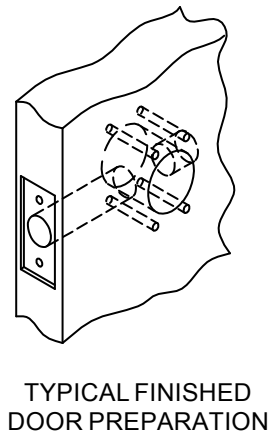

FIGURE 2
- DRILL HOLES AS DIRECTED ON INSTALLATION TEMPLATE MAKING CERTAIN DRILL IS PERPENDICULAR TO THE DOOR AT ALL TIMES WHILE DRILLING. DRILL 2-1/8" DIA. CROSS BORE FIRST. NEXT, DRILL FOUR (4) 5/16" DIA. MOUNTING HOLES THRU. THEN DRILL 1" DIA. EDGE HOLE.
- INSERT LATCH BOLT UNIT INTO HOLE IN EDGE OF DOOR. USING FACE PLATE AS A TEMPLATE, MARK OUTLINE. ALSO MARK LOCATION OF TWO (2) ATTACHING SCREWS. REMOVE LATCH BOLT UNIT.
- DRILL PILOT HOLES FOR TWO (2) ATTACHING SCREWS. NEXT, MORTISE DOOR EDGE 5/32" DEEP FOR FACE PLATE (SEE FIGURE 2).